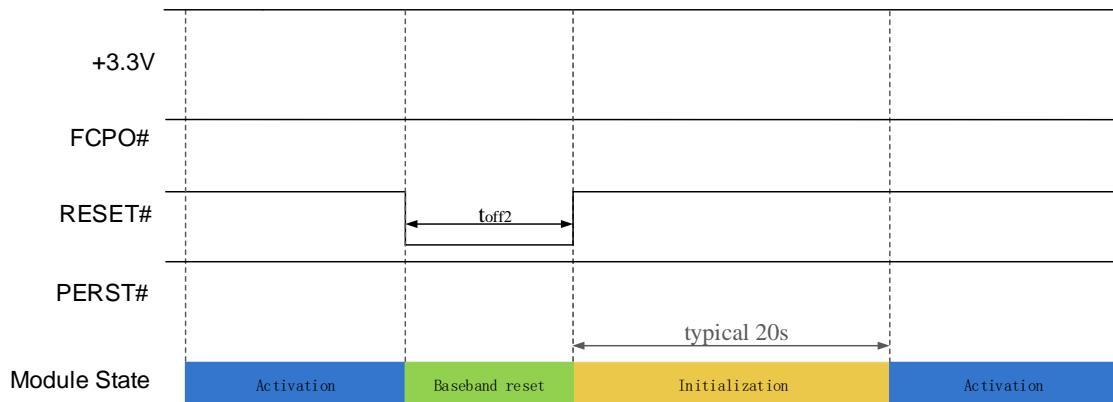

Figure 3-8 Reset control timing 1st
- Reset timing 1st in Figure 3-8, PMU of module internal always on in reset sequence, recommend using in FW upgrade and module recovery;